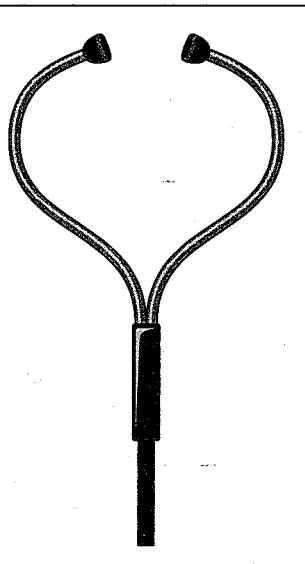

Figure 20-1:
- ✓ If you hear an unlocatable sound, get an old stethoscope from a medical supply house or ask your family doctor. As shown in Figure 20-1, take off the rubber disc and insert a piece of tubing in its place (about 1½ inches will do). Then put the plugs in your ears, run the engine, and move the tube end of the stethoscope around the hood area. The stethoscope amplifies the sound as you near the part that's causing it.